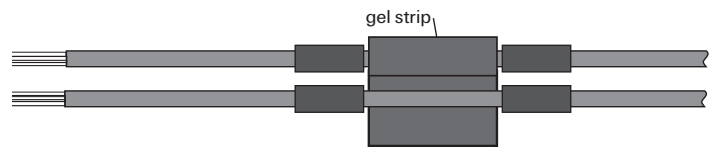

Figure 3
2. Wrap one layer of the gel strip around the first cable between the two felt tapes. Do not stretch the gel strip as you wrap it around the cable. Place self-adhering side against cable. (Fig. 3) For a single drop, go to Step 6.